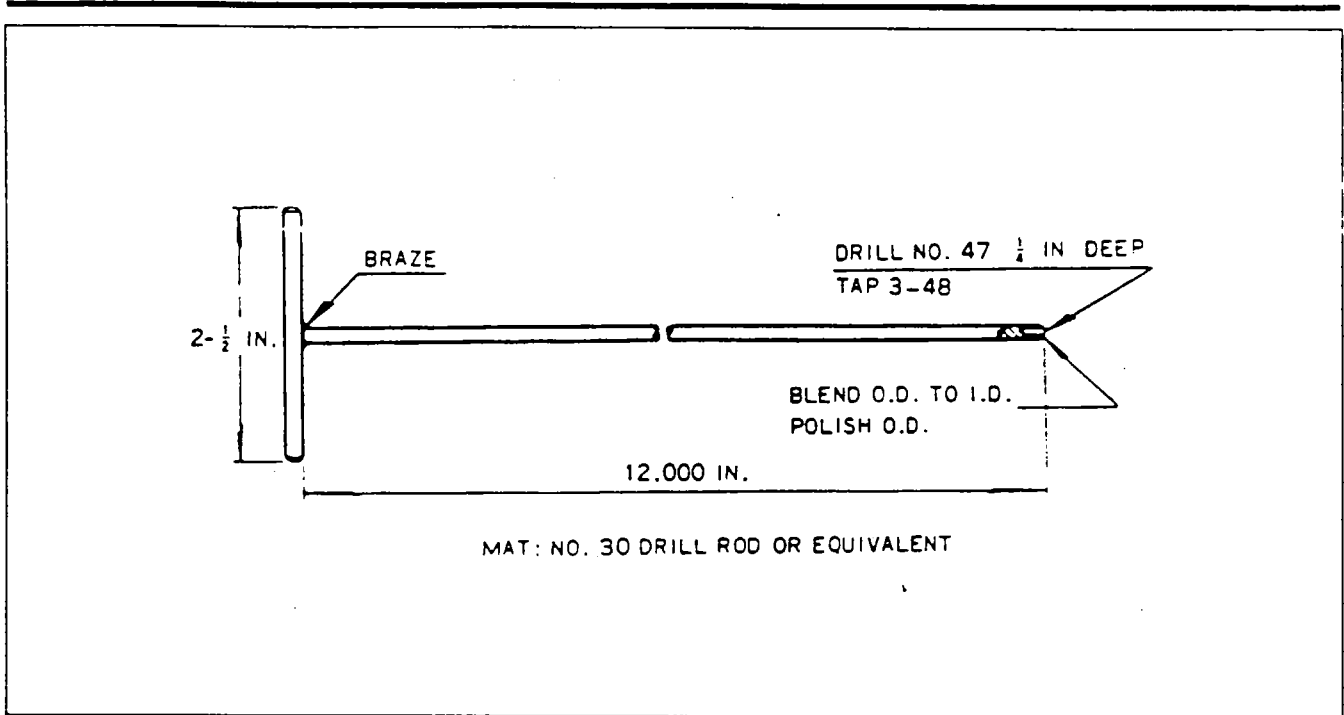

Figure 74-16. Ferrule Positioned Under Braid
- F. Push back braid and thread a new ferrule over wire and under braid until braid just covers knurling. (Refer to Figure 74-16.)